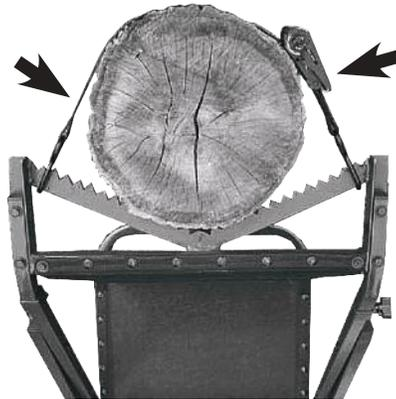
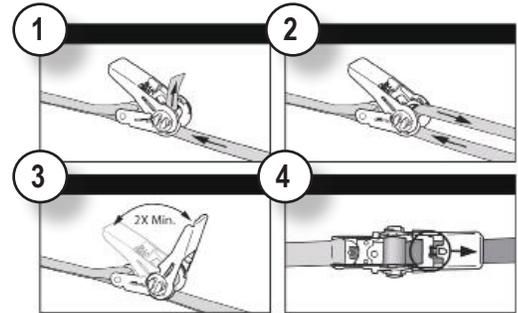

Figure 46
Figure 47
STEP 9: After reaching the top of the ladder immediately attach yourself to the tree with your full-body fall arrest tether to the tree trunk as shown in Figure 45. Now you can place the ratchet strap around the tree hooking one end to the left side of the tree blade and the other end to the right side of the tree blade and ratchet tight as shown in Figure 46. Ratchet threading instructions may be found in Figure 47. NOTE: Do not put any of your weight on the seat until the seat assembly ratchet strap has been secured.